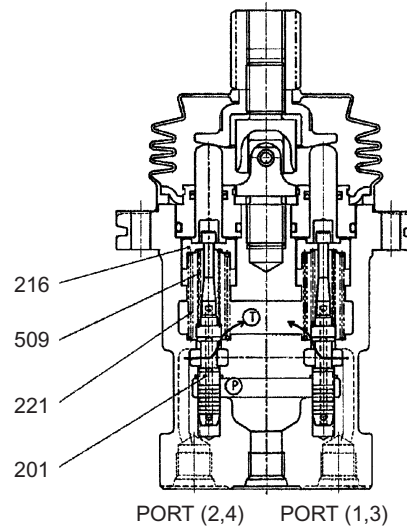

Fig. 24-8 Lever in neutral
(1) Lever in neutral (See Fig. 24-8)